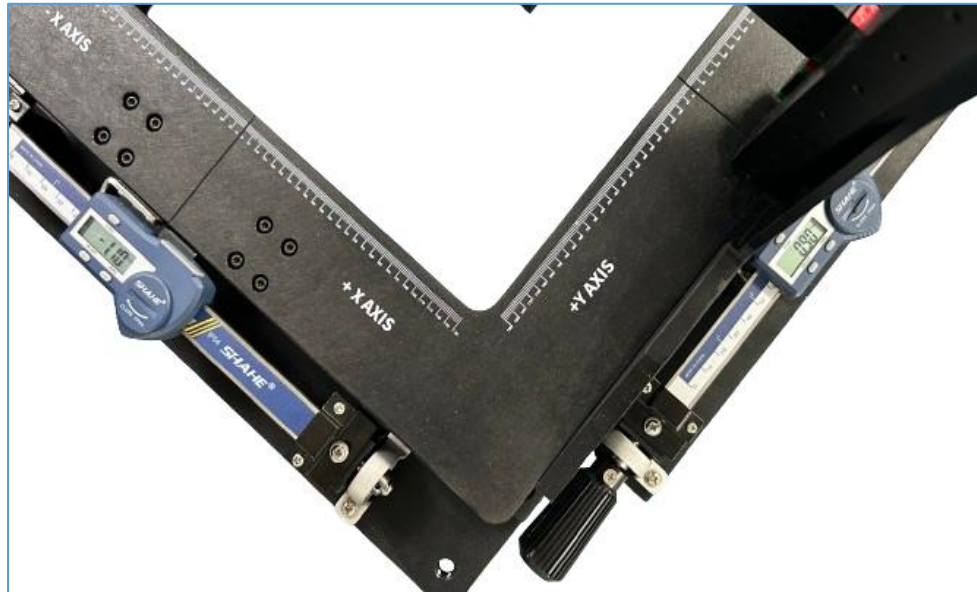

FIGURE 6.13: RESET X- AND Y-AXIS TO ZERO IN POSITIONING TOOL
13. After aligning the X-axis and Y-axis values based on the pop-up message, reset both the X- and Y-axis to zero as the optimum position in the positioning tool as shown in Figure 6.13 below.